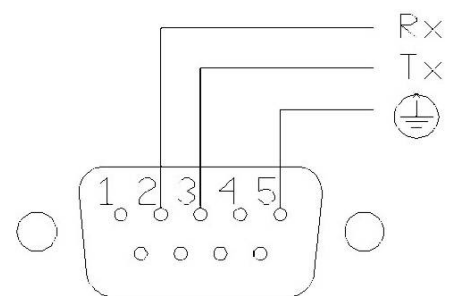

Fig.7 RS232 front view
For PC control, use the serial communication RS232 (5) interface, see Fig. 7.